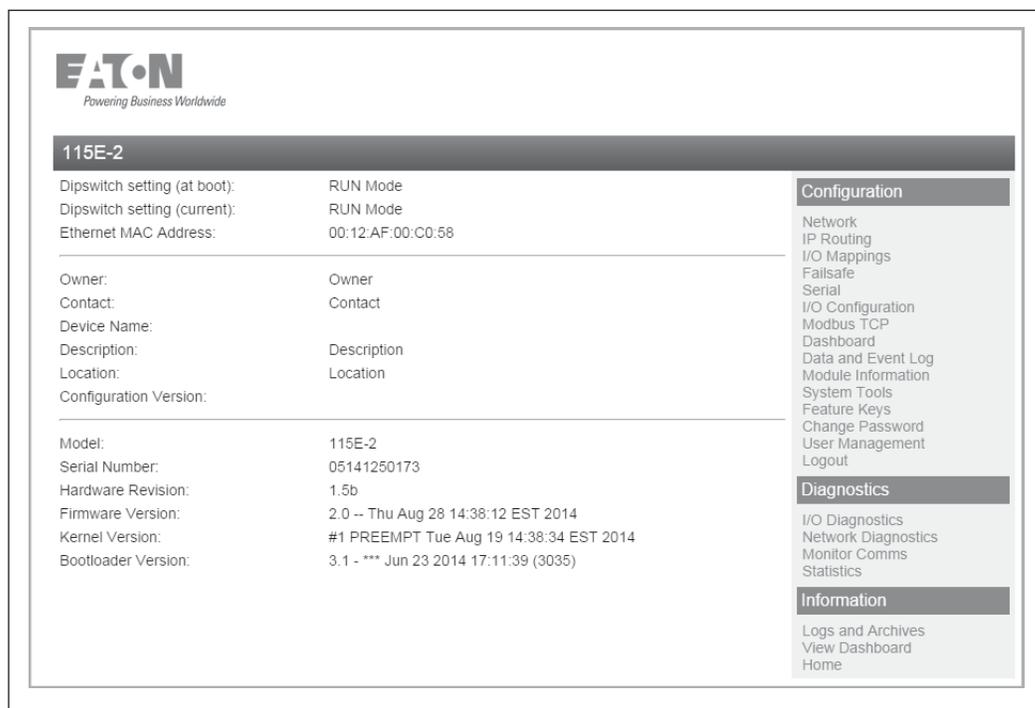

Figure 78. Home page
5. Type the username and password. The home page appears (**Figure 78**).
Feature license keys allow you to upgrade the 415U-2 module with enhanced features or to a more advanced model (for example, by enabling the Modbus option). You can purchase the feature license keys by contacting your sales representative or local distributor. To complete the purchase, you will need to provide the module serial number so that the feature license key can be generated for the module. The module serial number can be found on the home page (see **Figure 78**).